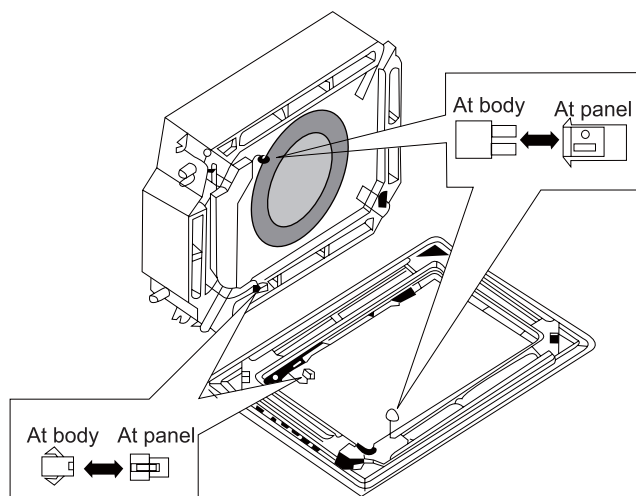

Figure 1-3-16
- Connect the joints for swing flap motor lead wire (at 2 places) installed on the panel (Refer to Figure 1-3-16).